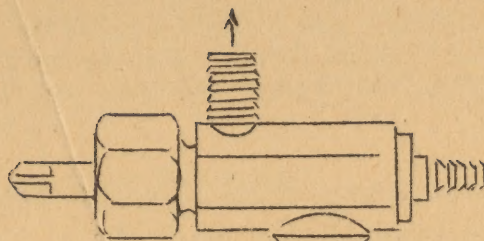

Fig. 4
- (2) Angle, Type 8 (Fig. 4) delivers gas vertically.